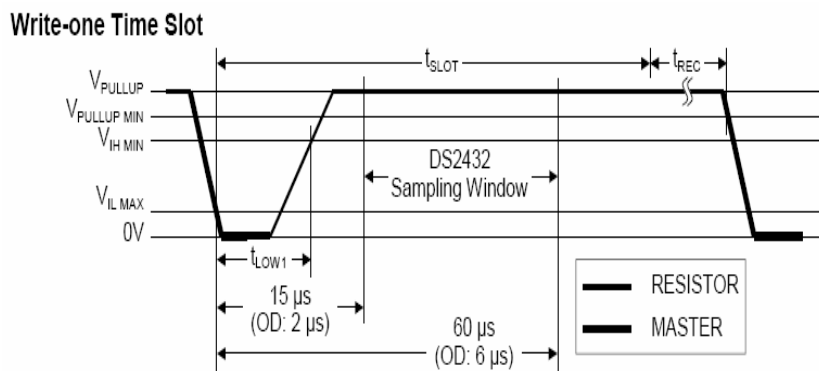

Fig4-98 - Write-one Time Slot
1-WIRE is a non-synchronic half-duplex serial transmission, which requires only one OWIO to transmit data. The typical 1-WIRE transmission structure is illustrated in Figure4-98. During the 1-WIRE transmission, the OWIO can be used to transmit data and supply power to all devices connected to the 1-WIRE. OWIO will link to a 4.7K Ohm Pull-High electric resistance which is linked to the power supply (3V-5.5V). The transmission speed for 1-WIRE can be divided into two types, Standard and High speed. Every 1-WIRE has a unique 64-bit code for the device to recognize. Therefore, the maximum number of link devices is 1.8; almost unlimited.
B. Write 1: If the sampling is high, 1 is generated (note: Read 1 is of a similar waveform pattern) as in Fig4-98: